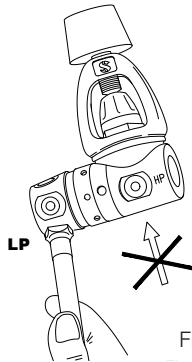

Fig. 1
Connect the low pressure (LP) hose of the Power Inflation Valve to an unused LP port of the first stage, that must have the same thread (fig. 1).